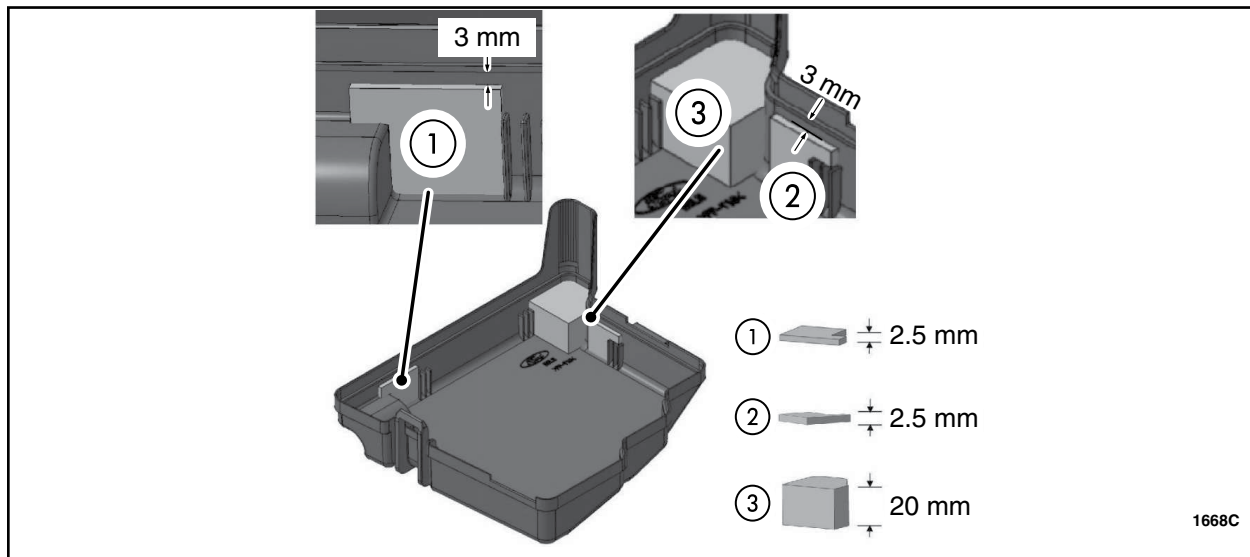

FIGURE 4
- Remove the backing and attach the individual pieces of the foam seal kit to the inside of the BJB cover in the specified locations. See Figure 4.